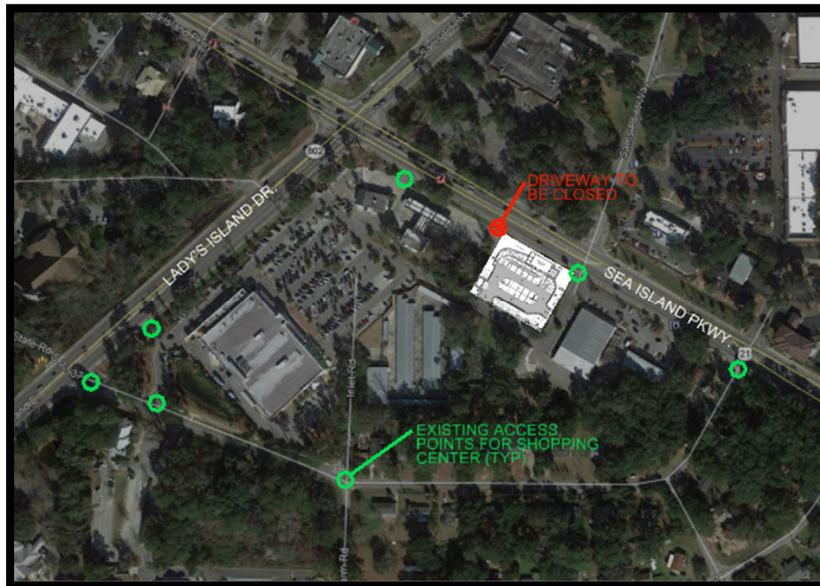

Figure 2
The location of the proposed Wendy’s restaurant is provided in Figure 2. The construction of the Wendy’s site will require the closure of an existing driveway on Sea Island Parkway (shown in red) and new access points will be provided along the internal roadways within the adjacent Publix shopping center. Traffic traveling to/from Wendy’s is expected to utilize the five (5) remaining access points (shown in green) for the adjacent Publix shopping center. Since the proposed site traffic will be distributed among several driveways, impacts to the driveway level-of-service are expected to be negligible.